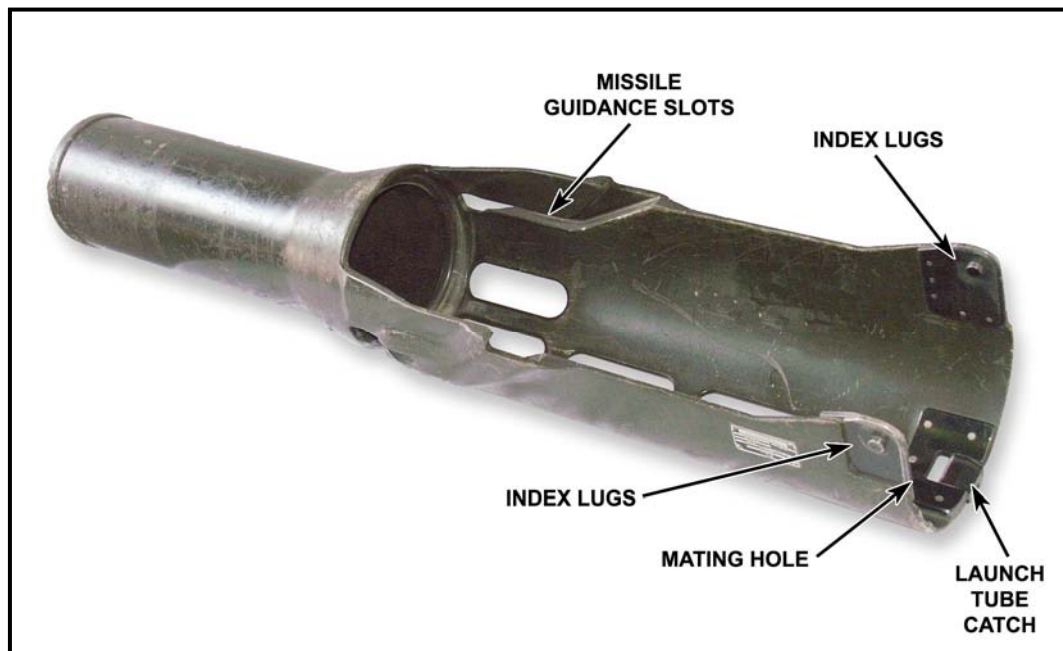

Figure 1-11. Launch tube.
e. **Launch Tube.** The launch tube seats the forward end of the enclosed missile and provides mechanical guidance for the first part of the missile flight (Figure 1-11). The launch tube components and their functions are: